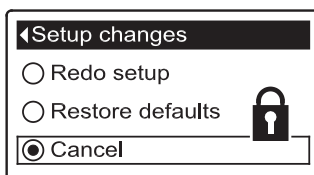

FIG. 24
8. Press the RIGHT (▶) button. A flashing padlock icon will appear, as shown in Figure 24.
- 1-7. Go to the **Setup changes** screen (Figure 24) by following Steps 1-7 at left.